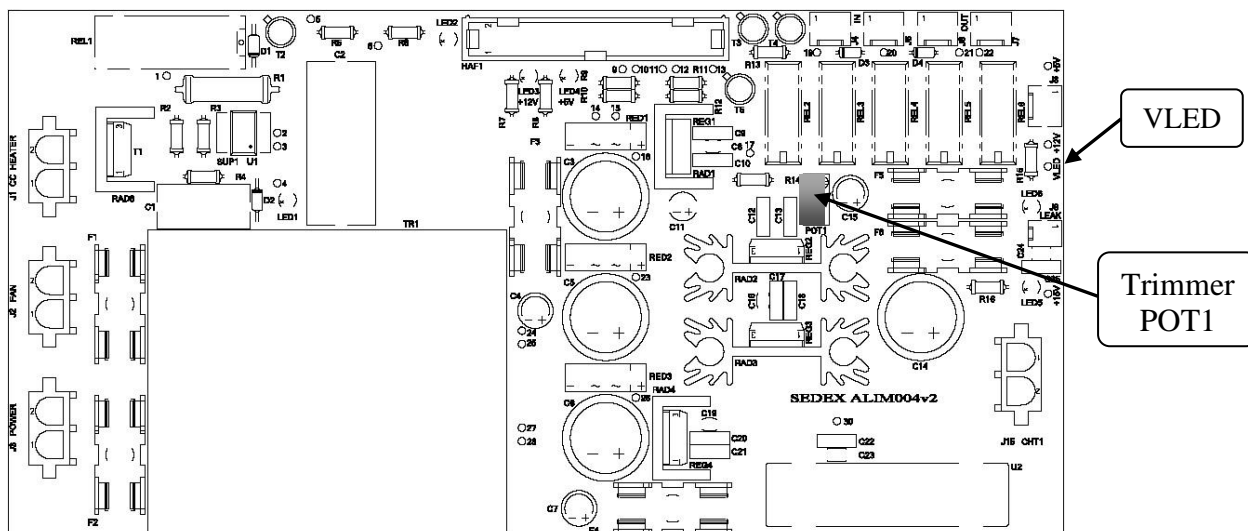

Figure 5-4: The ALIM004V2 Board Lamp Setting
- f) Check the voltage at VLED test point on ALIM004v2 Board (Figure 5-4). Do **not** plug in the light source connector now.